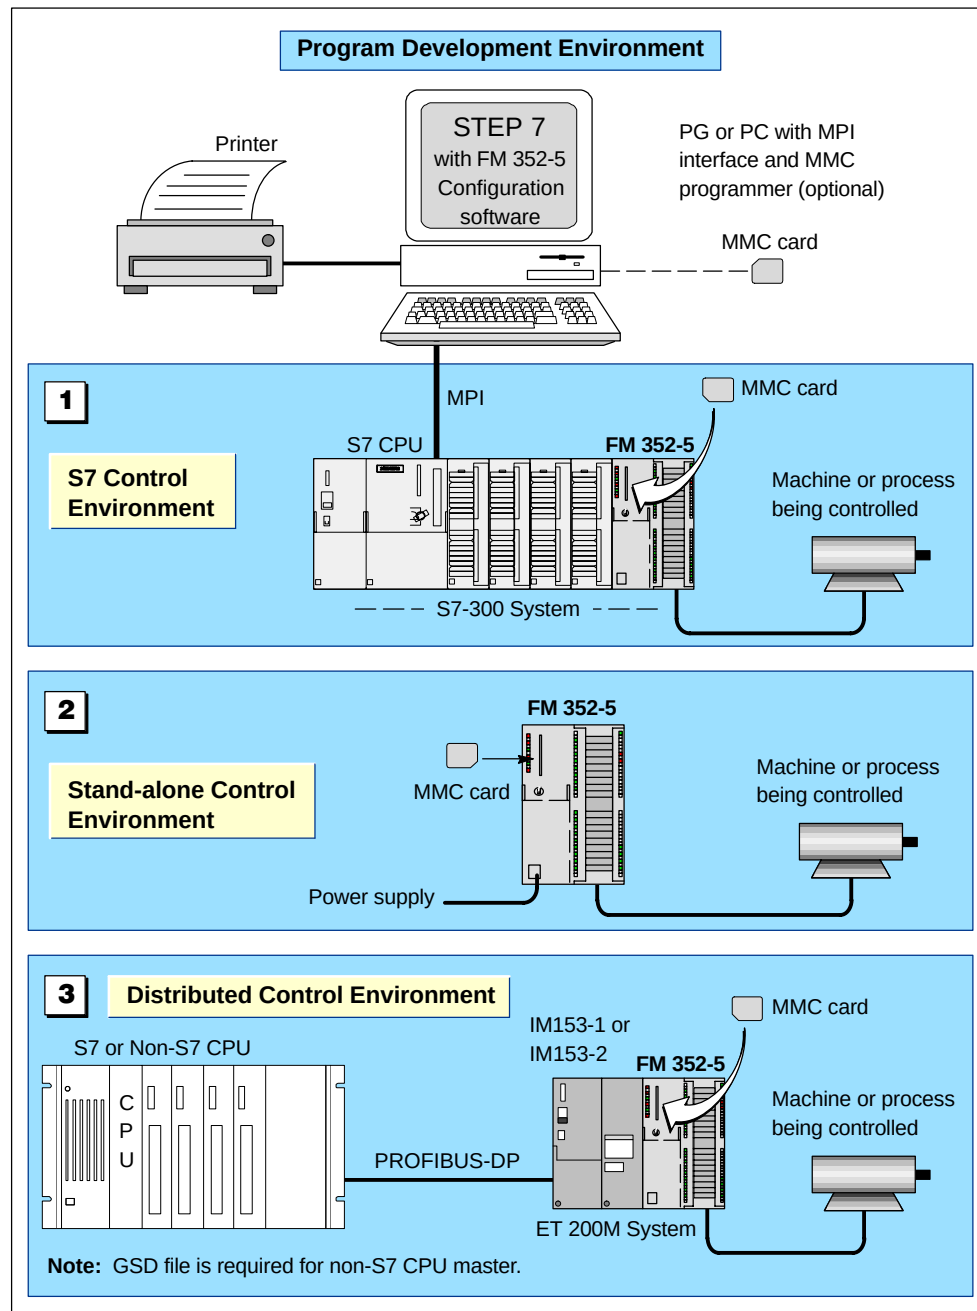

Figure 1-3 Examples of System Configurations
Figure 1-3 shows some possible system configurations with the FM 352-5. The control program is developed in the STEP 7 environment with the FM 352-5 Configuration software. The FM 352-5 module can operate: ① in an S7 system, ② in a stand-alone configuration, or ③ in a distributed system (with an S7 or non-S7 master), using PROFIBUS communications.